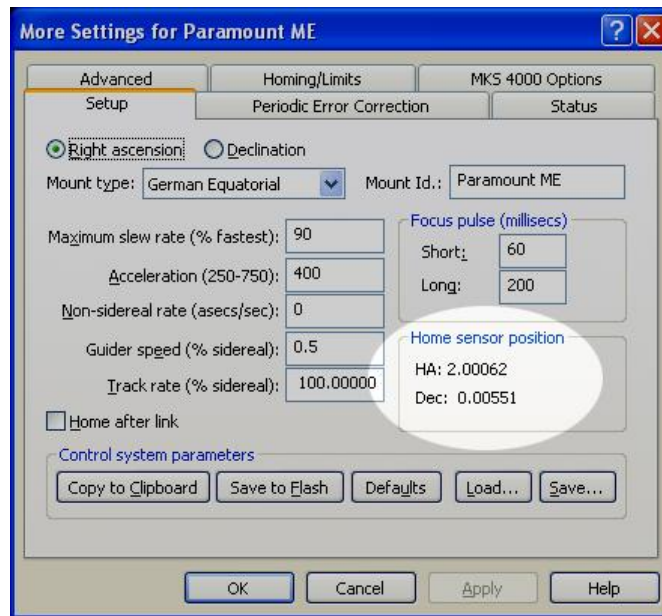

Figure 52: The homing sensor positions computed by TheSky6.
8. Click **Sync** on the Telescope tab of the large Object Information dialog box (see Figure 52). When the Sync Confirmation dialog box appears, click **OK**.
The first step to ensure the Paramount ME is properly synchronized is to look at the hour angle and declination of the homing sensors *reported by TheSky6*. After synchronizing the mount, from TheSky6 Professional Edition, click Telescope > Options > More Settings. The Setup tab shows the Home Sensor Position (see Figure 52).